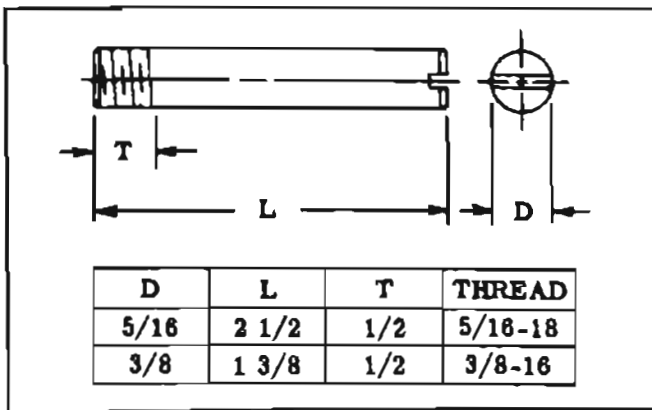
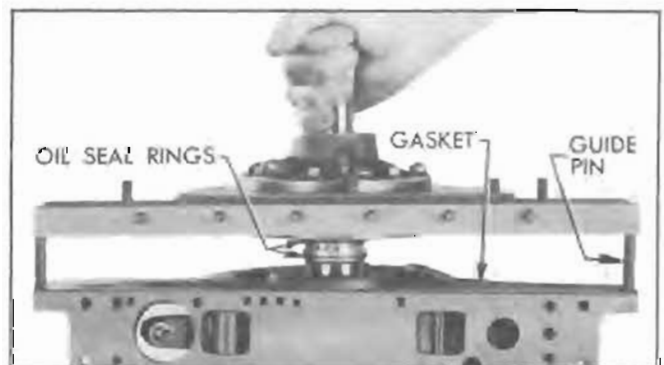

Figure 4-129—Guide Pins
Figure 4-140—Installing Reaction Shaft Flange and Gasket
6. Prepare two  $\frac{5}{16}$ "x $2\frac{1}{2}$ " guide pins and two  $\frac{3}{8}$ "x $1\frac{3}{8}$ " guide pins with screwdriver slot in plain end, as shown in figure 4-129. These will be used for alignment of parts during assembly.
1. Install a ⅝" guide pin (fig. 4-129) in accumulator bolt hole at each end of flange on transmission case. See figure 4-140.
3. Make certain that oil seal rings are on flange hub, then install flange assembly on case using care to avoid damaging oil seal rings. See figure 4-140.
2. Install two  $\frac{5}{16}$ " guide pins (fig. 4-129) in transmission case to guide each end of servo body, and install servo body spacer plate gasket over guide pins.
13. Install a  $\frac{3}{16}$ " guide pin (fig. 4-129) at each end of transmission case and install a new oil pan gasket over guide pins. Install oil screen on suction pipe.